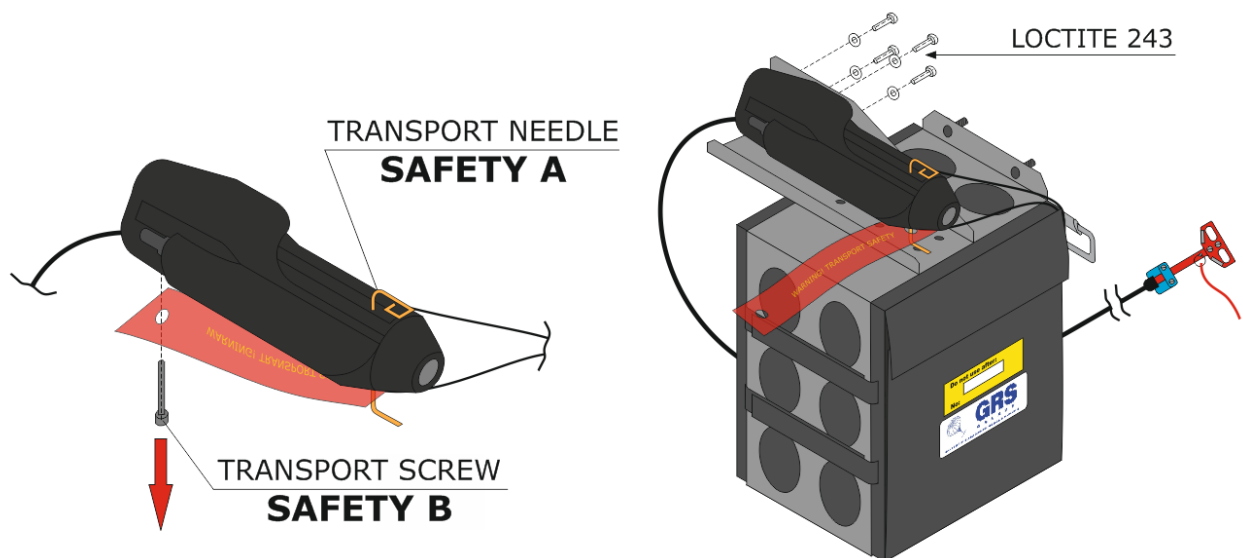

Figure 3
- 1) After unpacking you first **unscrew the safety B** from the rear of the rocket cover **but leave the needle - safety A and the red little flag attached until the system is installed!!!** Fasten the rocket by using 4x M5 screw and washers. Use a thread locker Loctite (243 Medium strength) - Figure 3.